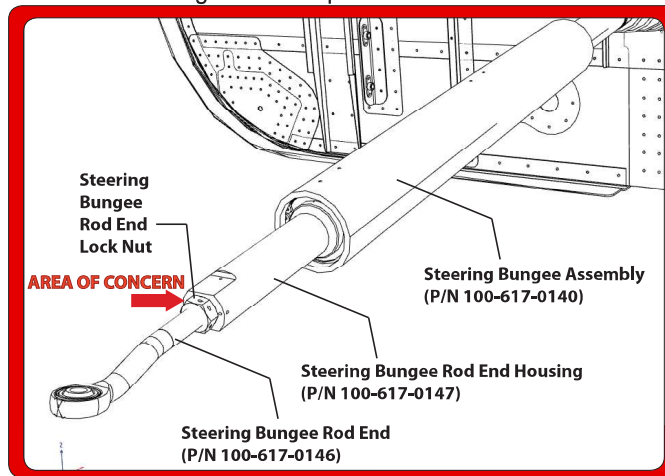

Figure 1: Steering Bungee Inspection Location
Quest Aircraft Company is mandating a one-time inspection and modification to check the Steering Bungee (P/N 100-617-0140) for movement in the area where the Steering Bungee Rod End Housing (P/N 100-617-0147) connects to the Steering Bungee Rod End (P/N 100-617-0146) (See Figure 1). The Steering Bungee modification (FSI-018) consists of installation of a Locking End Cap to the Steering Bungee.
2. Inspect the Steering Bungee assembly (P/N 100-617-0140) for movement in the area where the Steering Bungee Rod End Housing (P/N 100-617-0147) connects to the Steering Bungee Rod End (P/N 100-617-0146) (See **Figure 1**):
- a. Manually move the Steering Bungee in all directions at the area of concern noted in **Figure 1**. Observe for movement between the Steering Bungee Rod End Housing (P/N 100-617-0147) and the Steering Bungee Rod End (P/N 100-617-0146). There should be no relative movement between the two. If movement is found, the Steering Bungee Rod End Lock Nut should be verified for proper torque (reference the KODIAK 100 Maintenance Manual, 180-200 in-lbs). If relative movement is still found, contact Quest Aircraft for a replacement Steering Bungee assembly.